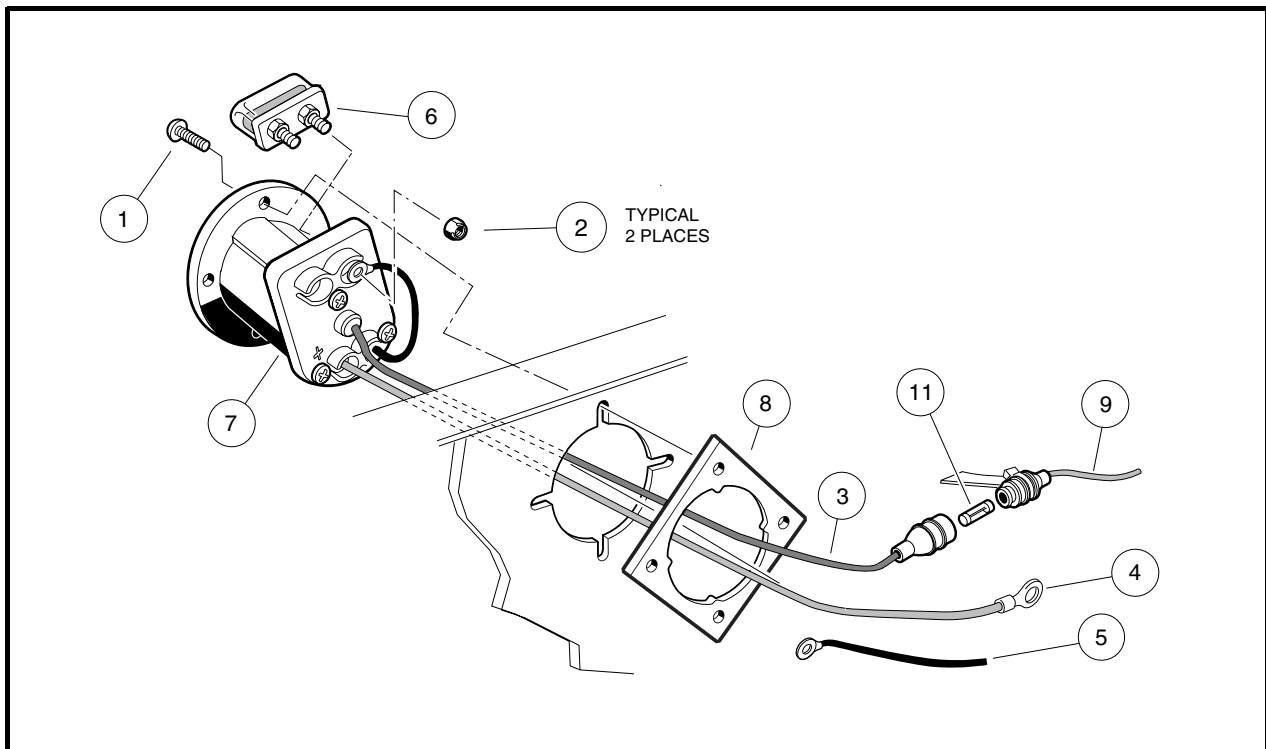

Figure 12-8 Charger Receptacle
2. Remove the 10 gauge red wire (4) from the positive post of battery No. 1 (**Figure 12-8, Page 12-10**).
3. Remove black 10 gauge OBC wire (5) from charger receptacle assembly (**Figure 12-8, Page 12-10**).
4. Disconnect the gray wire (9) from the receptacle at the yellow fuse holder (**Figure 12-8, Page 12-10**).
5. Remove the four screws (1) that secure the charger receptacle bezel (8) to the receptacle backing plate and to the vehicle body (**Figure 12-8, Page 12-10**).
1. Insert the 10 gauge red wire (4) and the 18 gauge gray wire (3) through the hole in the vehicle body and the receptacle backing plate (**Figure 12-8, Page 12-10**).
3. Install the four screws (1) that secure the receptacle assembly to the vehicle body and receptacle backing plate (8). Tighten screws to 11 in.lb (1.2 N-m) (**Figure 12-8, Page 12-10**).
4. Connect 18 gauge gray wire (9) to yellow fuse holder. Make sure fuse (11) is installed in fuse holder.
5. Connect the 10 gauge black wire (5) to the receptacle fuse link (6) on the charger receptacle assembly (**Figure 12-8, Page 12-10**).
6. Connect the 10 gauge red wire (4) to the positive post of battery No. 1.
1. Remove the fuse link assembly (6) from the charger receptacle (7) by removing the two nuts and washers used to secure the 10 gauge black wire from the computer (5) and the 10 gauge black wire to the receptacle (**Figure 12-8, Page 12-10**).
2. Remove the fuse link (6) from the charger receptacle (**Figure 12-8, Page 12-10**).
3. Install nuts (2) on fuse link mounting posts and tighten to 19 in.lb (2.1 N-m) (**Figure 12-8, Page 12-10**).